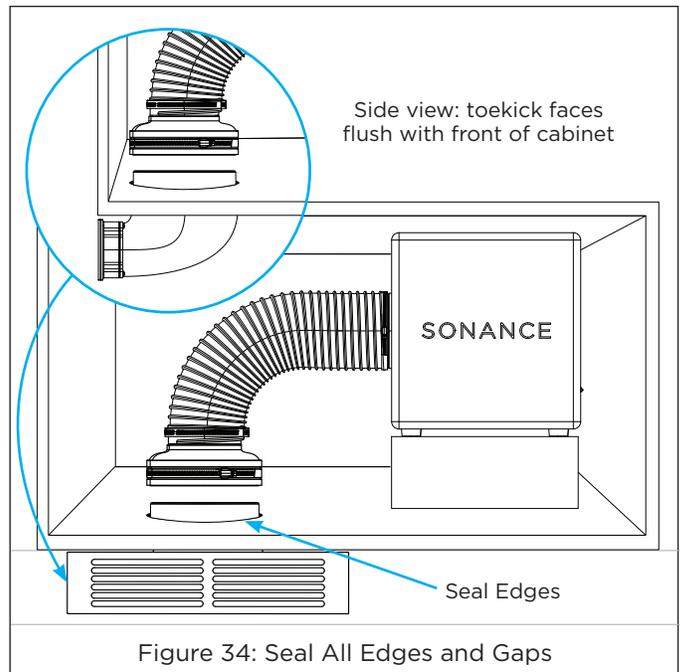

Figure 34: Seal All Edges and Gaps
10. Ensure all connections are sealed with gaskets or Butyl tape to prevent "hissing" or air leakage into the cabinet (see Figure 34).